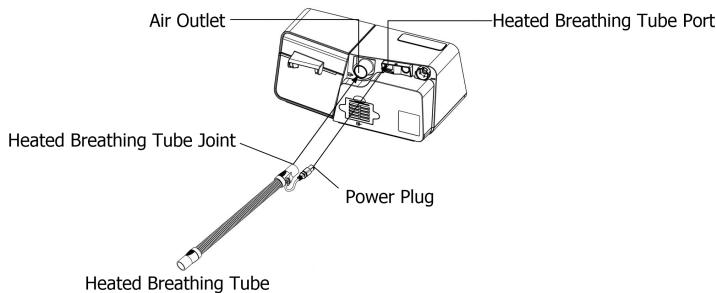

Fig. 12-6
(2) Or if the heated breathing tube is applied, connect the heated breathing tube joint to the air outlet of the device, and then insert the power plug of the heated breathing tube into the heated breathing tube port on the back of the device, as shown in Fig. 12-6.